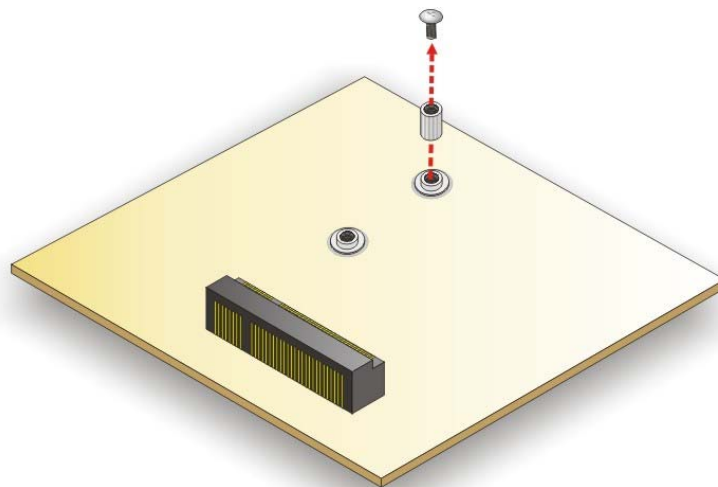

Figure 3-8: Removing Screw and Standoff
Step 4: Remove the retention screw and the standoff for the half-size PCIe Mini card as shown in Figure 3-8.